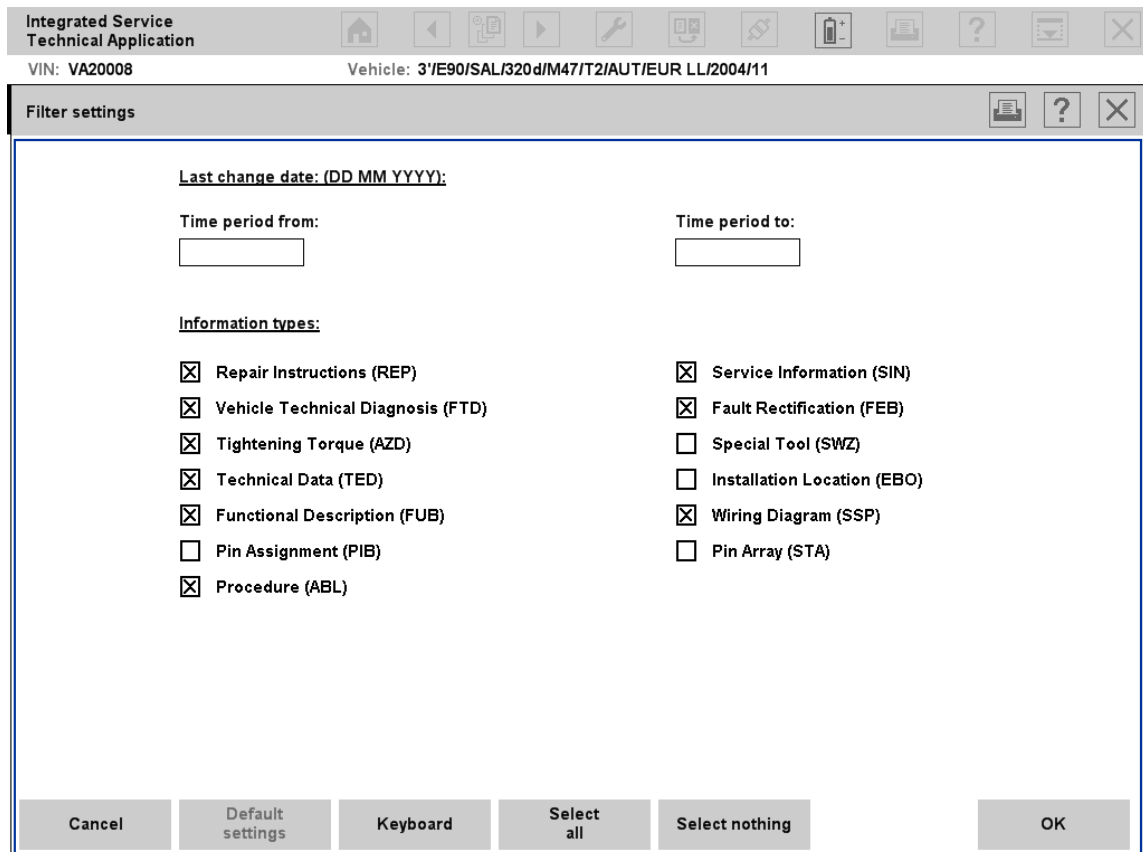

Fig. 3.22 "Filter settings" tab
- ◇ **Filter:** You can call up a window with which you limit the search to certain time periods or information types, e.g. circuit plans or repair instructions (Fig. 3.22). These filter settings are taken into account in the search.